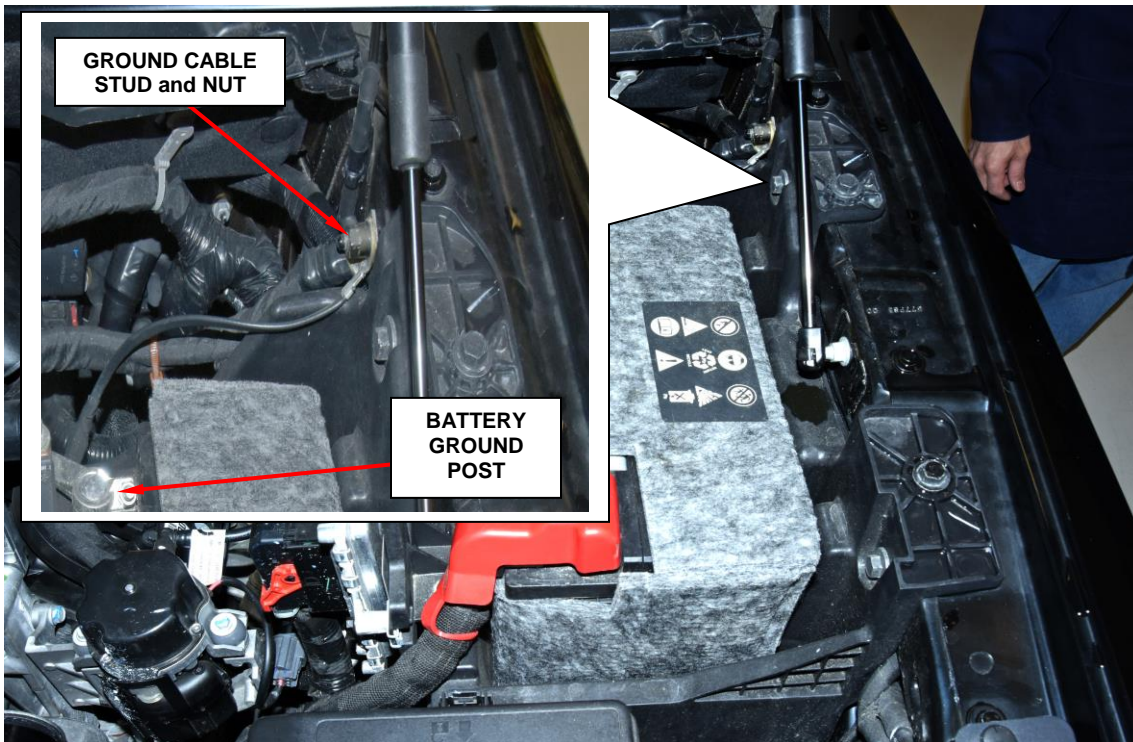

Figure 1 – Left Side of Engine Compartment
4. Remove the 13mm hex head nut from the body ground cable and Powertrain Control Module ground strap stud located on the left side of the fender (Figure 1).